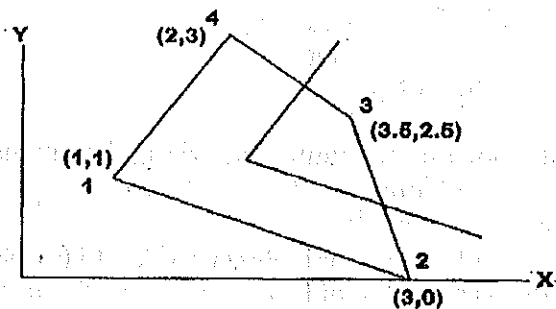

Fig. 15(a)
15. a) i) For the four noded element shown in Fig. 15(a), determine the Jacobian and evaluate its value at the point $(1/3, 1/3)$ (8)